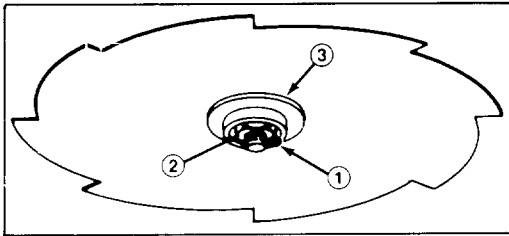

Figure 3
INSTALLING OPTIONAL CUTTER BLADE (Fig. 3 & 4);
5. Insert cotter pin through hole in shaft and wrap ends around shaft (Fig. 3).
To prevent blade from loosening and possible personal injury, insert a new cotter pin through hole in shaft and wrap ends around shaft (Fig. 3).